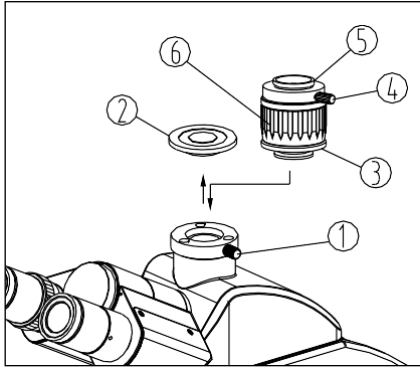

Fig.21
1. Loosen the lock screw① of trinocular head, and remove the dust-cover② (See Fig.21).
2. Move the dust-cover from the TV adapter③. Insert the TV adapter into the trinocular head as shown in the figure and tighten the lock screw①.
3. Loosen the lock screw④ at the TV adapter. ⑤install the interface into the TV adapter, and tighten the lock screw④.
4. For trinocular observation. If the image is unclear (when image is adjusted/clear by binocular usage), rotate the adjustment tube⑥ until image it is clear.